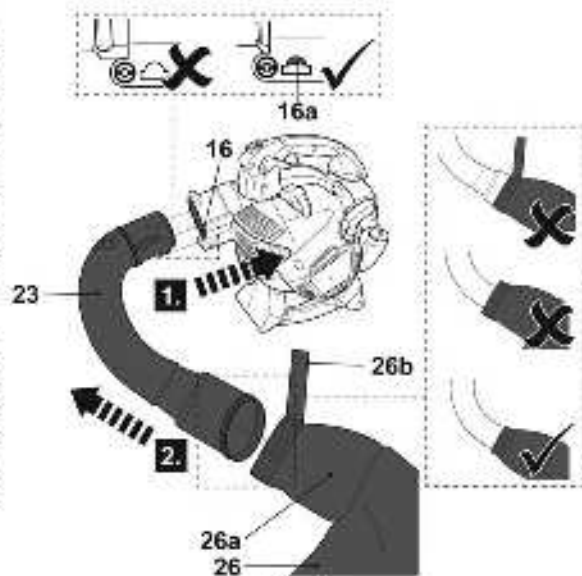

Fig. 2
- > Align the L-shape connector (23) with the outlet nozzle (16) and insert it all the way to the stop (Fig. 2, step 1). Ensure the L-shape connector snaps in position.
- > Fit the inlet (26a) of the collection bag (26) onto the L-shape connector (23) (Fig. 2, step 2).
- > Fasten the Hook and Loop fastener (26b) so that the inlet (26a) sits properly around the notch of the L-shape connector (23). Ensure the connection is secured.